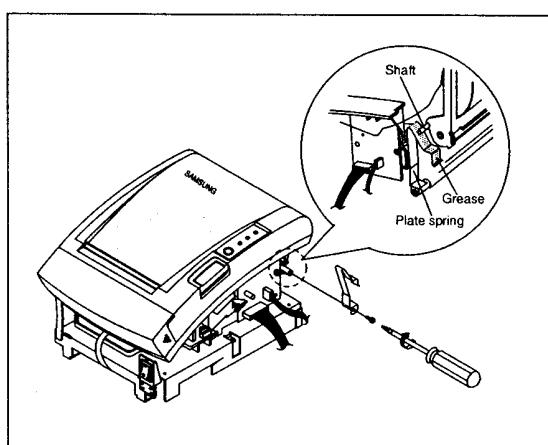

Figure 3-8 Wall Mount #4
4. Attach the Plate-Spring to the right side of Frame-Body and tighten a screw as illustrated in the Figure 3-8.